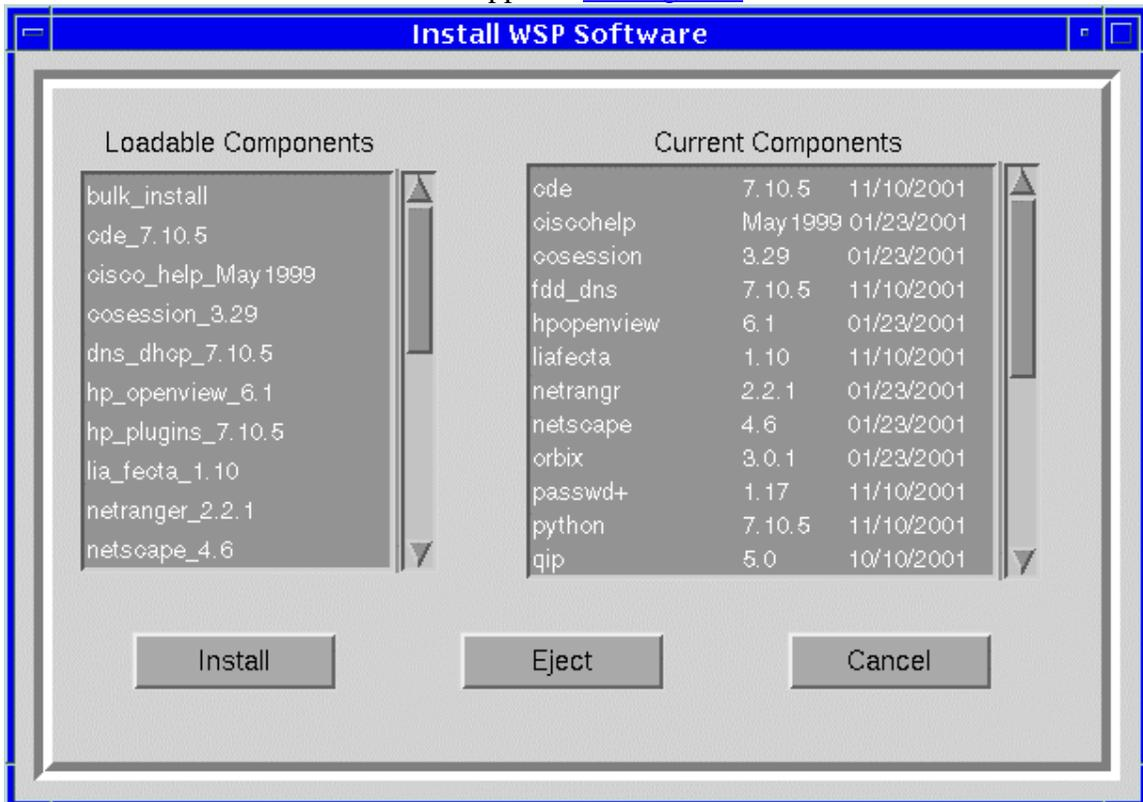

Figure 6 – Install WSP Software
18. From the **Toolbox** submenu select the **Install WSP Software** utility. The **Install WSP Software** window will appear. See Figure 6.
26. From the **Toolbox** submenu select the **Install WSP Software** utility. The **Install WSP Software** window will appear. See Figure 6.